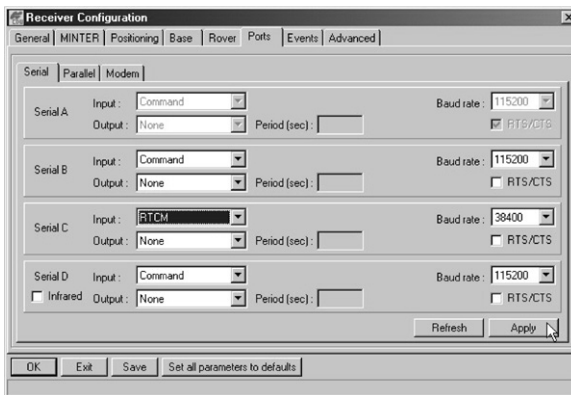

Figure 3-15. Rover Configuration – Ports
6. Select the **Ports** tab and set the following parameters for Serial port C (Figure 3-15):